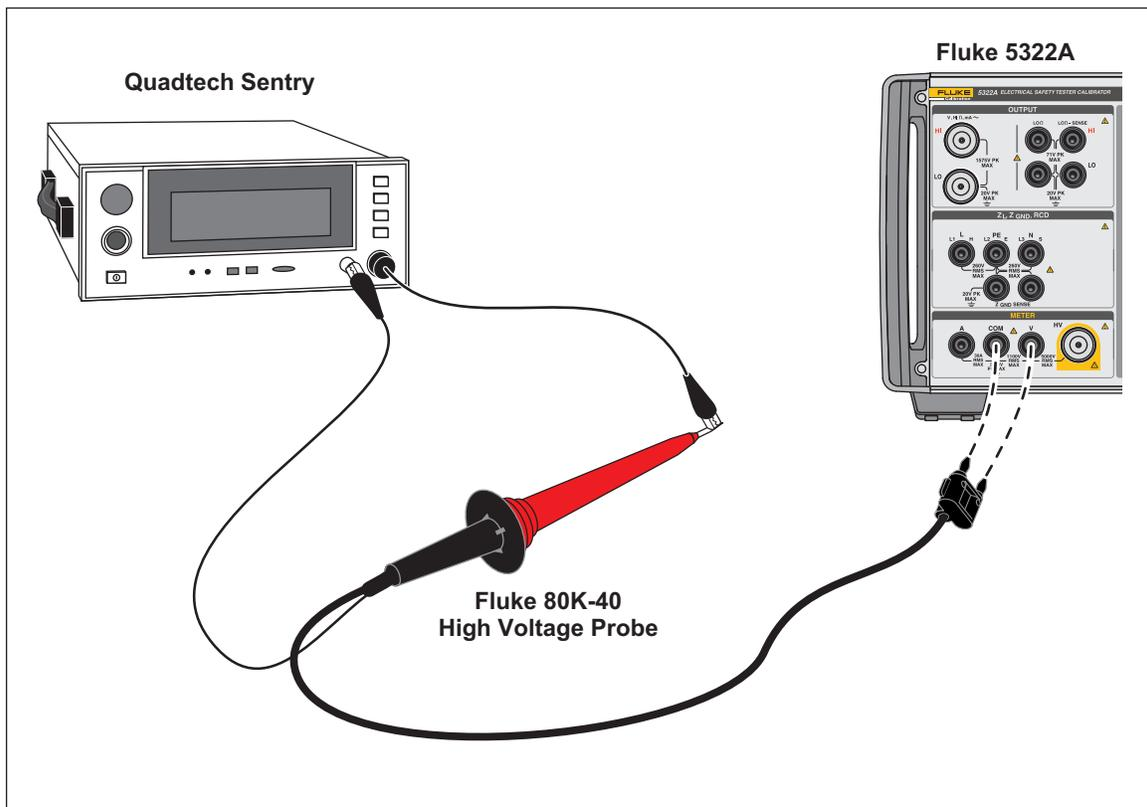

Figure 62. 40 kV High Voltage Probe Application
2. Connect the DUT through the High Voltage probe and the Product as shown in Figure 62. Be sure to connect the ground side of the dual banana lead from the 80k-40 probe to the COM terminal of the 5322A meter.